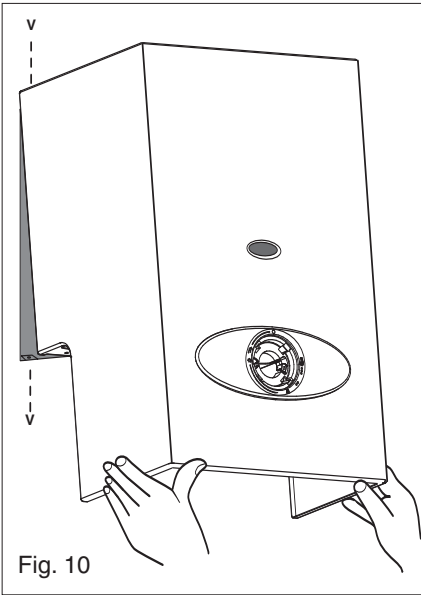

Fig. 10
- remove the four screws "V" (fig. 10) securing the case
- position the case top-first (fig. 10)